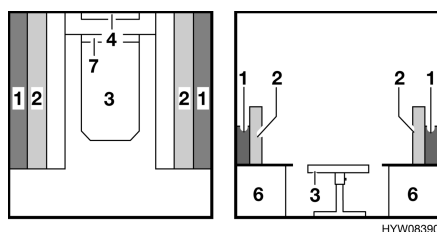

Fig. 33 During conversion
- Convert the table (Fig. 33,3) to a bed foundation (see section 7.7).